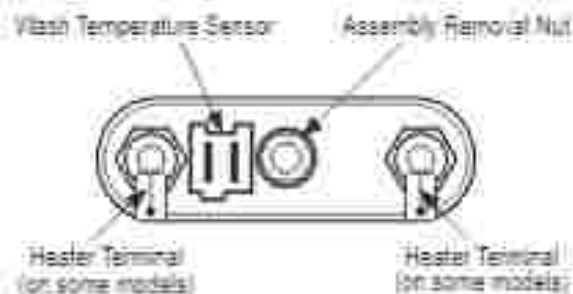

Figure 1 - Wash Temperature Sensor
- 6. Disconnect the wash temperature sensor connector from the heating element bracket. See Figure 1.